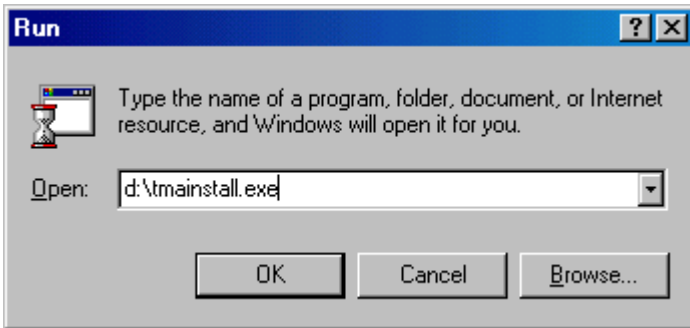

Figure 4. Installing the True Mold Angle Software
3. Select **R**un. The dialog box shown in Figure 4 is displayed.